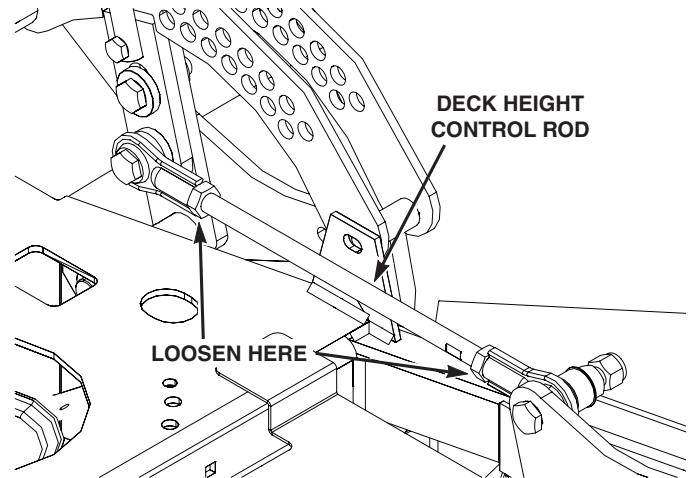

Figure 6-6. Cutter Deck Height Adjustment
4. Adjust by loosening the jam nuts on the deck height control rod. Turn the deck height control rod until the 3" setting is achieved. Hold the deck height control rod and tighten the jam nuts. See Figure 6-6.